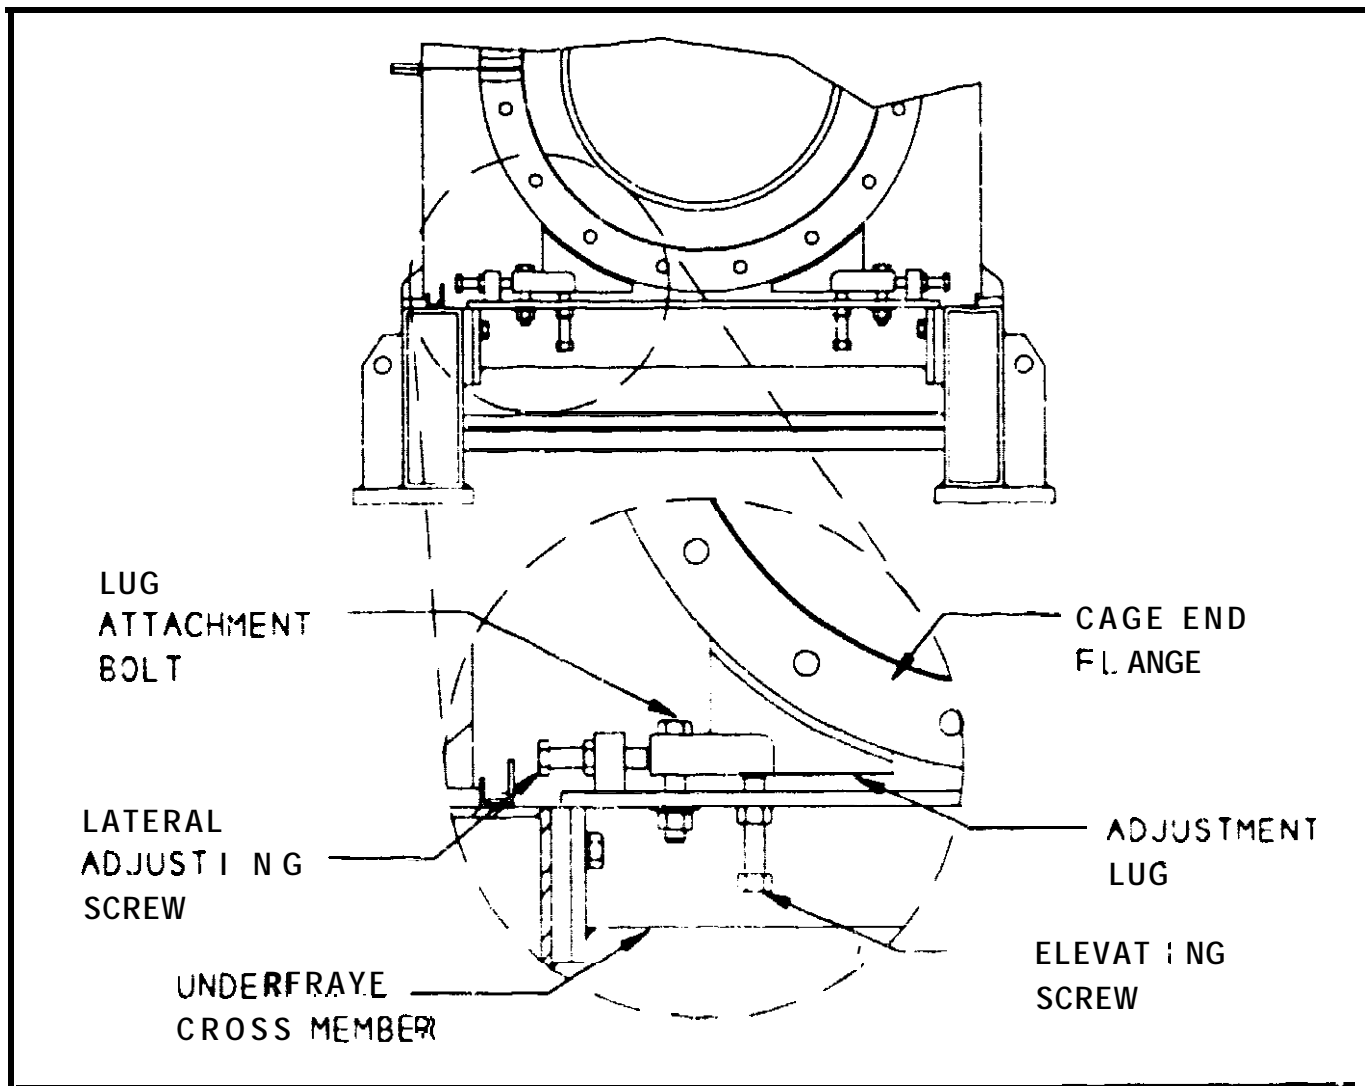

Figure 5.7-2
- a. Loosen the lateral adjusting screw and the elevating screw (See Figure 5.7-2). If this is a discharge cage, it has no elevating screws.